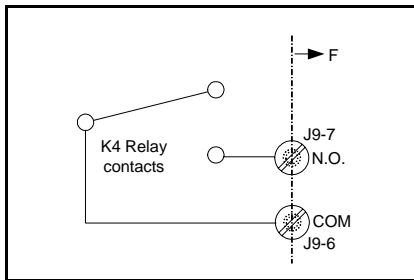

Fig. 4.9 AC interface relay K4
- K4 is relay that provides a run enable control signal to an external device on the AC Interface drive circuit card. When the contacts are closed, the AC interface is permitting an external device to run, if that device's interlock is wired to this relay. (Fig.4.9)